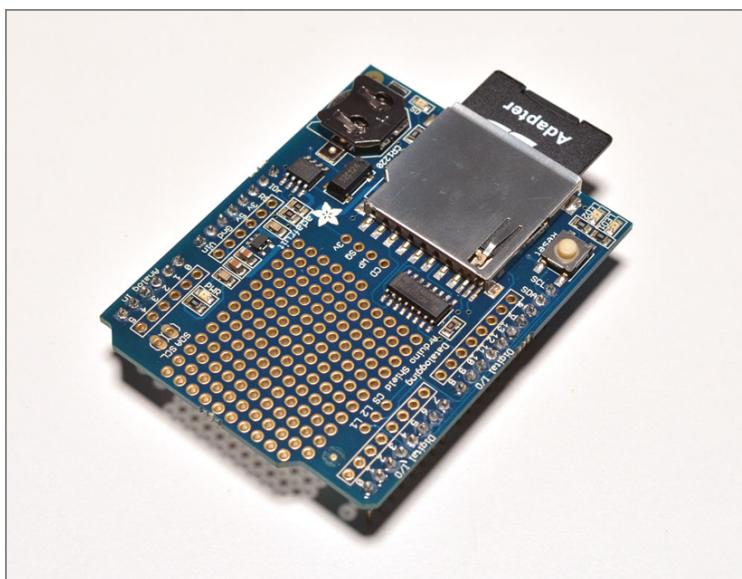

Figure 13-11: adafruit data logging shield
- **adafruit data logging shield** (www.exploringarduino.com/parts/adafruit-data-logging-shield): This shield is particularly well suited to the experiments that you will be doing later in this chapter because it includes both a real-time clock (RTC) chip and an SD card interface. This shield connects the SD card to the default pin CS and connects a real-time clock chip to the I²C bus (see Figure 13-11).